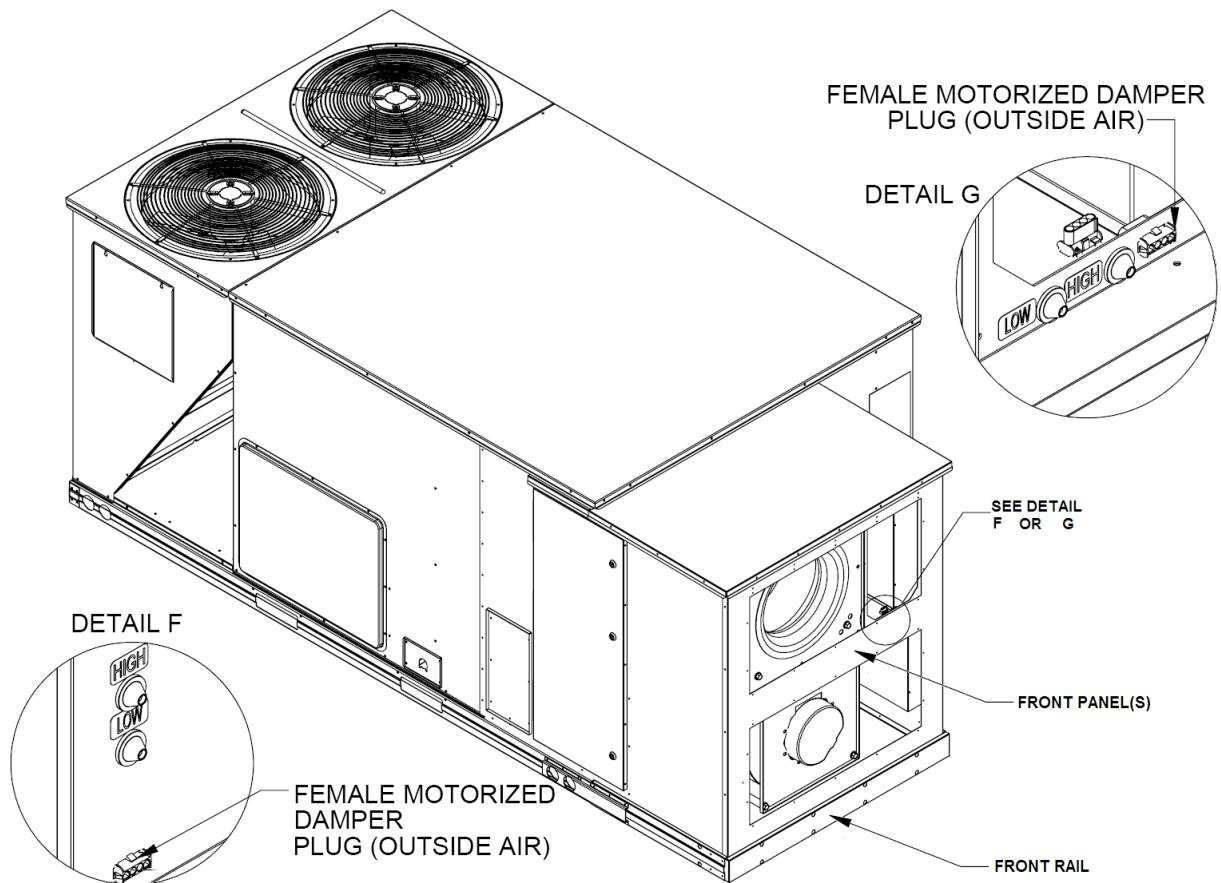

Figure 15 – Panel Removal and 2-Position Plug Connections
4. Disconnect the two 4-pin electrical plugs for the damper actuator from the wiring harness inside the air chambers of the EnergyX unit. See figure 15
4. PG models 03-14 only: Remove the front rail from the front panel and side rails of the EnergyX unit. The font rail is attached by seal-tek screws to the front panel and four seal-tek screws to each side rail. See Figure 15.
6. Remove EnergyX module front panel(s) by removing seal-tek screws in each panel. See Figure 15. On PG 03-14 the front panel is one piece, and on PM 16-25 the front panel is two pieces.